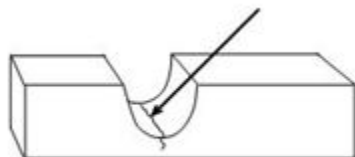

Figure 109E "U" Groove Pattern
- On frog wing rails and frog point, remove metal in the shape of a 'U' groove type pattern. (See Figure 109E)